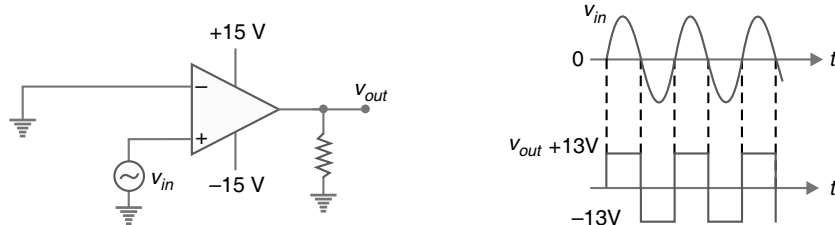

Fig. 23.95
**2. As a zero-crossing detector.** When one input of a comparator is connected to ground, it is known as zero-crossing detector because the output changes when the input crosses  $0\text{ V}$ . The zero-crossing circuit is shown in Fig. 23.95. The input and output waveforms are also shown. When the input signal is positive-going, the output is driven to positive maximum value (*i.e.*  $+V_{sat} = +13\text{ V}$ ). When the input crosses the zero axis and begins to go negative, the output is driven to negative maximum value (*i.e.*  $-V_{sat} = -13\text{ V}$ ).